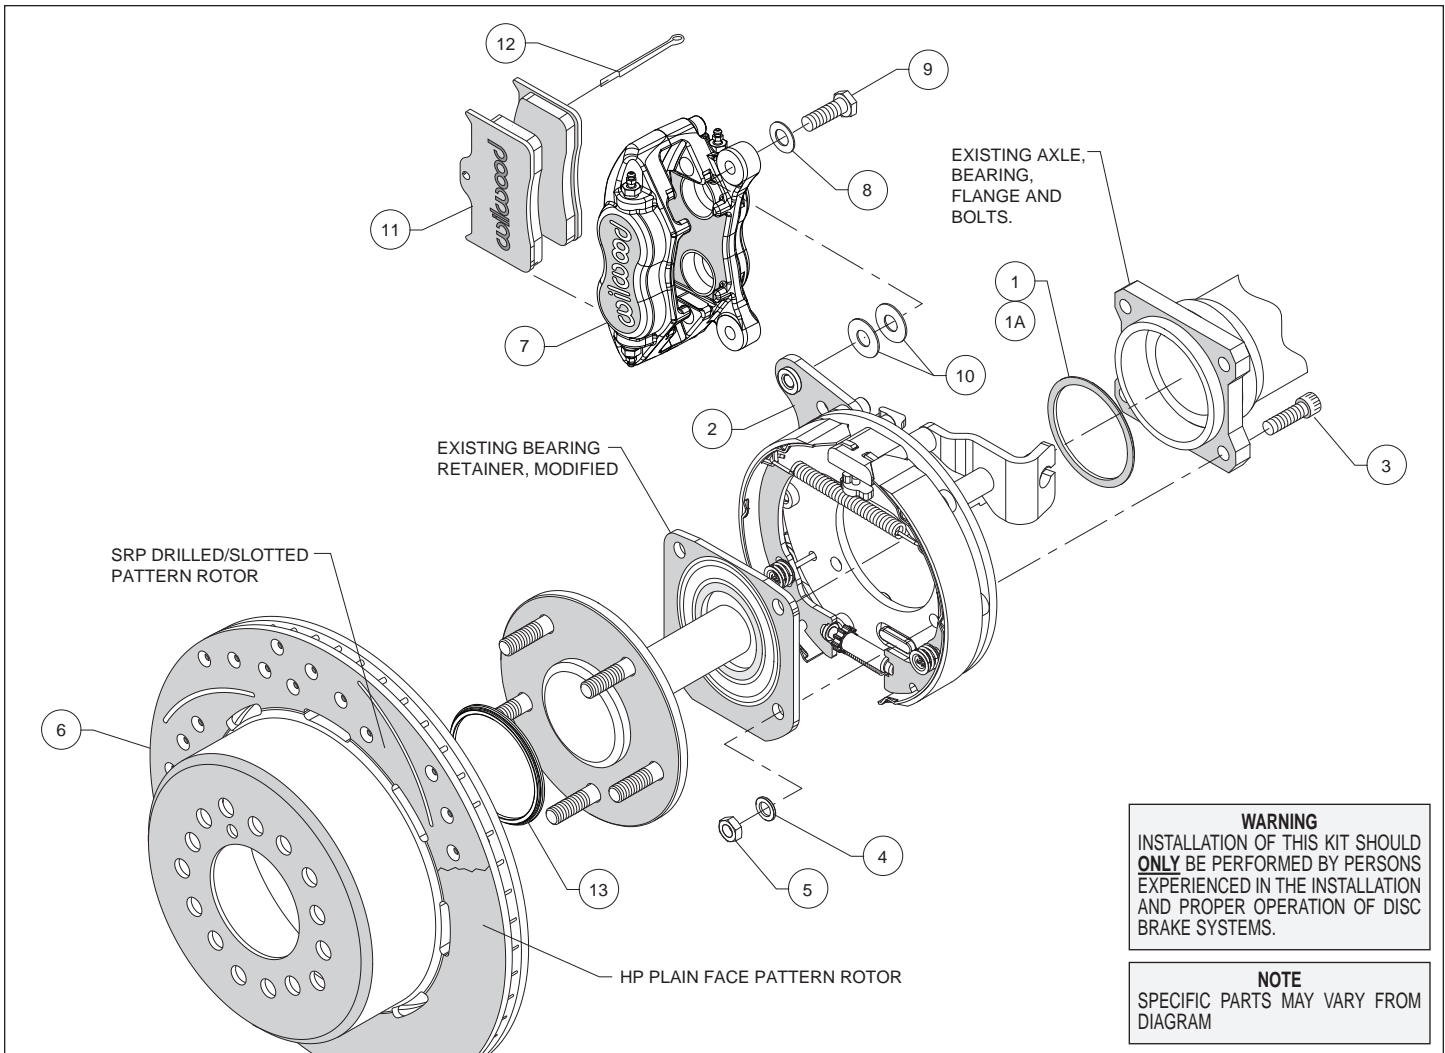
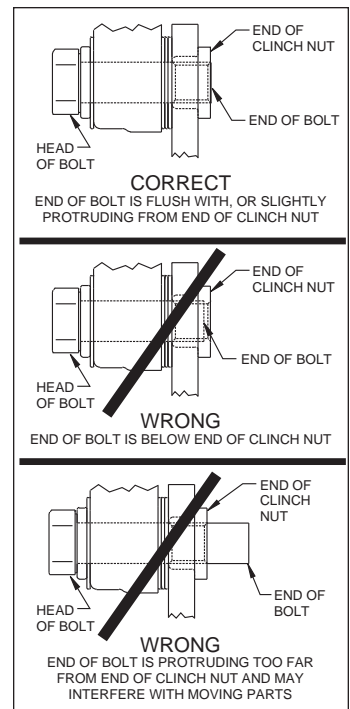

Figure 1. Typical Installation Configuration
Figure 5. Clinch Nut Engagement Diagram
Assembly Instructions (numbers in parenthesis refer to the parts list, and Figure 1 on the preceding pages): **CAUTION:** All mounting bolts must fully engage clinch nuts. Be sure to check that all bolts are either flush or protruding through flanged side of clinch nut after shimming, Figure 5.
- With the bearing retainer in place, slide the caliper mounting bracket assembly (2) onto the axle as shown in Figure 1 and Photo 1. Install axle shim (1 for model year 1955/56) or (1A for 1957) over axle shaft with bearing chamfer facing toward the axle housing, as shown in Photo 2.
- Slide the axle and parking brake assembly into the axle housing ensuring that the backing plate is flush with the axle housing flange and the bearing retainer is flush with the backing plate. Secure OEM bearing retainer using bolts (3), washers (4) and lock nuts (5), as shown in Figure 1. Hex nuts (5) and washers (4) that retain the caliper mounting bracket assembly (2) should be on the wheel side of the bracket, Figure 1. Torque nuts to 40 ft-lbs.
- Slide the rotor registration adapter (13) onto the axle register on the axle flange with the smaller O.D. facing toward the rotor/hat (6), Photo 3. Align the correct hole pattern in the rotor/hat with the stud pattern on the axle flange and slide into place, Figure 1 and Photo 4. **NOTE:** The rotor/hat must fit flush against the axle flange or excessive rotor run out may result. Install three lug nuts (finger tight) to keep the rotor/hat assembly in place while continuing with the installation. **NOTE:** Some OEM and after market axles come with stud sizes larger than 0.50" diameter. Verify stud size and have a qualified machine shop drill the bolt circle of the hat/rotor to the correct stud size, if necessary.
- NOTE:** Please reference the caution statement at the beginning of the assembly instructions. Mount the caliper (7) onto the caliper mounting bracket (2) using bolts (9) and washers (8), as shown in Figure 1. Initially place two .035" thick shims (10) on each bolt between the caliper and the bracket, Photo 5. Temporarily tighten the mounting bolts and view the rotor (6) through the top opening of the caliper. The rotor should be centered in the caliper, Photo 6. If not, adjust by adding or subtracting shims between the bracket and the caliper. Always use the same amount of shims on each of the two mounting bolts. **NOTE:** The end of each bolt must be flush with or slightly protruding from the head of the clinch nut, as shown in Figure 5. If necessary place spare shims between washer (8) and caliper mounting ear to achieve the proper clinch nut engagement. Once the caliper alignment and clinch nut engagement are correct, remove the bolts one at a time, apply red *Loctite*® 271 to bolt threads, and torque to 40 ft-lb.